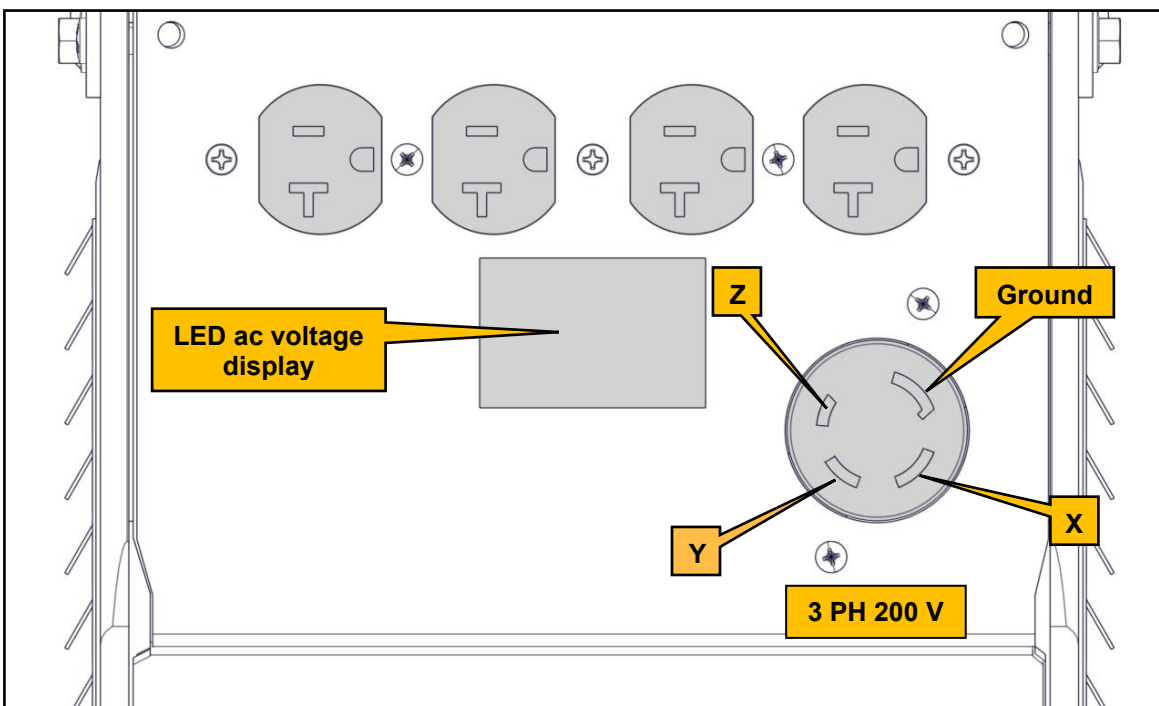

Figure 2
- ☐ Using a multimeter, measure the voltage at the 200 V ac receptacles (Figure 2).